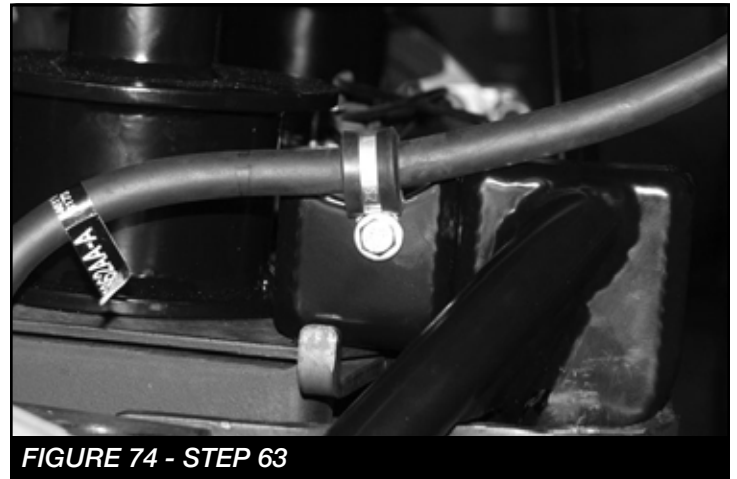

FIGURE 74 - STEP 63
63. Locate the supplied 1/4"-20x 1" bolt, nut, washers and FTCLAMP-LB10 rubber cushioned clamp and install on the rear axle breather tube, mounting it to the hole provided on the new track bar bracket. Torque to 14 ft-lbs. **SEE FIGURE 74**